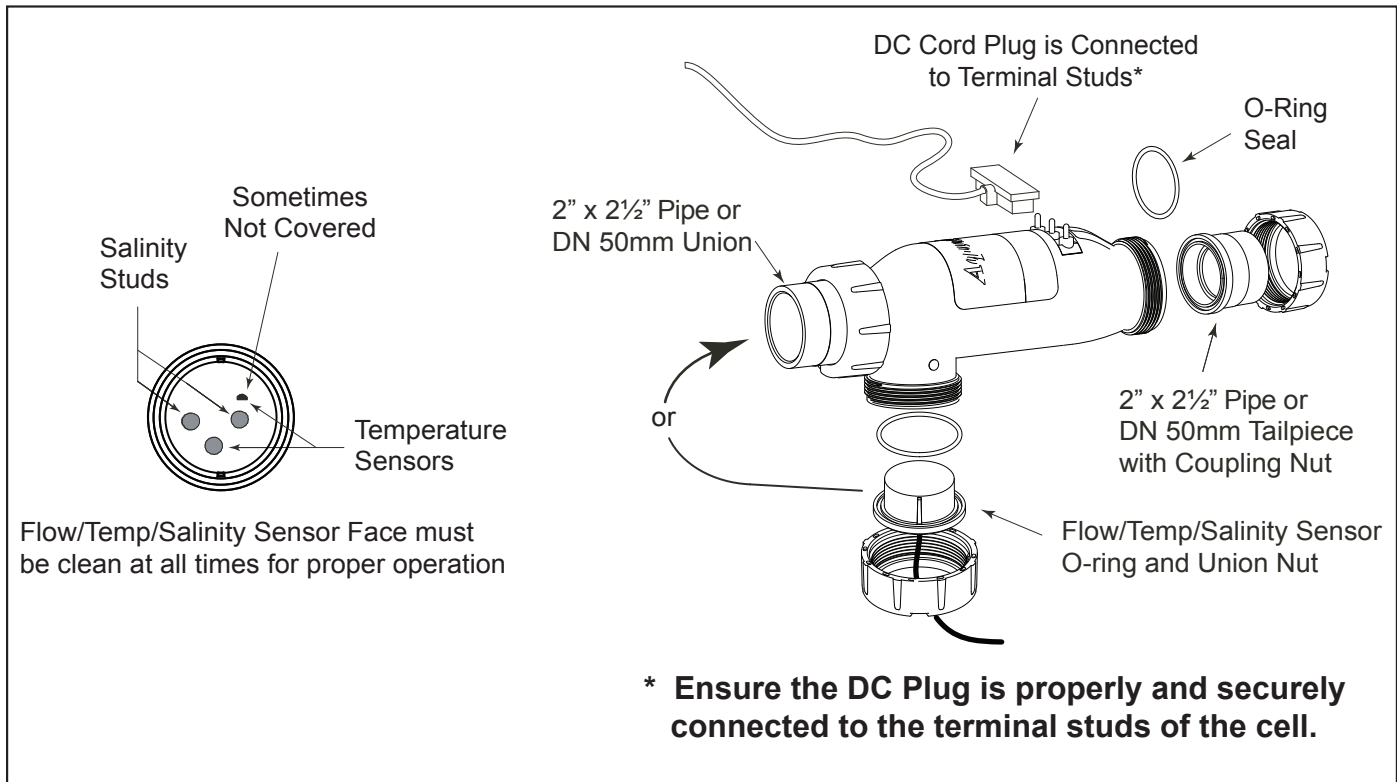

Figure 9. Cell Installation and Flow/Temp/Salinity Sensor
6. Install the flow/temp/salinity sensor into the 3-Port cell. See Figure 9.
7. Install the flow/temp/salinity sensor into the available sensor port (See Figure 9).
- Install the new flow/temp/salinity sensor into the 3-port cell (See Figure 9).